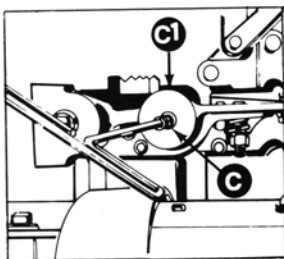

FIGURE 7
1. Use adjusting screw "C" for this adjustment. Locking screw "C-1" will have to be loosened and retightened prior to and after adjustments. See figure 7.